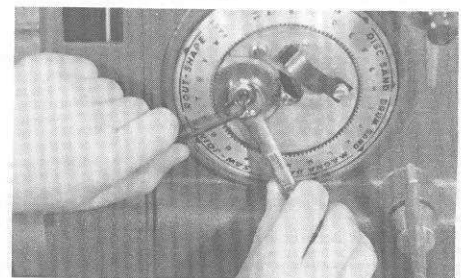

Figure 12. Hold the setscrew and loosen the jam nut.
5. Loosen the jam nut. Hold the setscrew with a 1/8" Allen wrench and loosen the jam nut with a 7/16" open end wrench. (See Figure 12.)